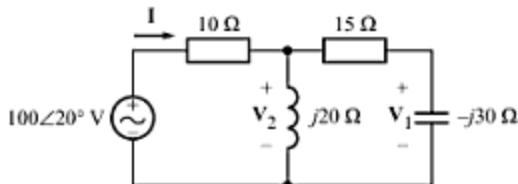

Fig. C-55
- C-84. In the circuit shown in Fig. C-55, (a) find the current \mathbf{I} , and (b) use voltage division twice to find \mathbf{V}_1 . [Ans. (a) $2.32 \angle -28.6^\circ \text{ A}$; (b) $77.3 \angle 5^\circ \text{ V}$]